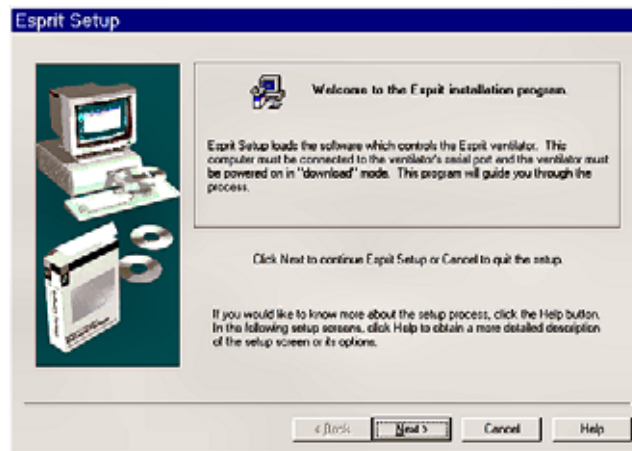

Figure 7-1: Setup Screen
3. The *Setup* screen appears (Figure 7-1). Click **Next** to continue or **Cancel** to exit.